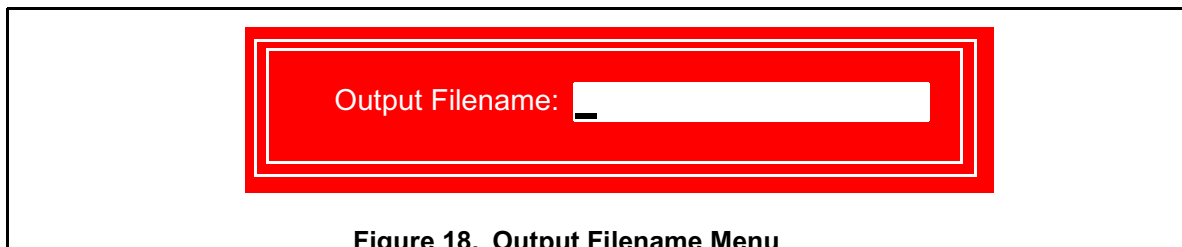

Figure 18. Output Filename Menu
- d. Type a new file name, or type the original file name in the Output Filename: prompt as desired. Remember, file names may not exceed eight characters in length. See Figure 18.